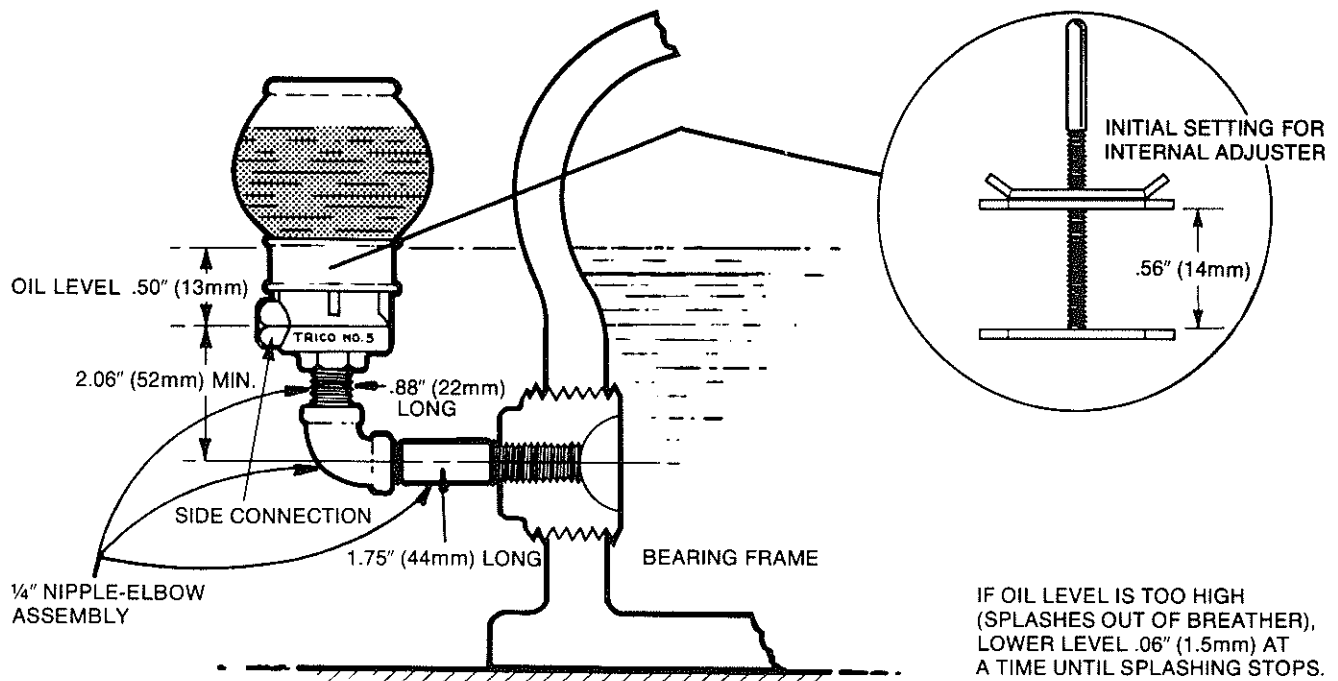

Figure 1
- a. Before installing the oiler on the bearing frame, check the oiler adjustment. The setting dimension .56" (14.3 mm) is illustrated in Figure 1.
- d. Install the nipple-elbow assembly so that the long nipple [1/4 NPT x 1.75" (44mm) long] extends horizontally from the frame to the 90 degree elbow and the close nipple vertically from the elbow to the BOTTOM connection of the oiler. Refer to Figure 1.
- f. After starting pump, remove the breather. Oil viewed through the breather hole should be a mist. If oil is thrown out of the breather hole, or an oil mist is not visible, recheck all dimensions shown on Figure 1.